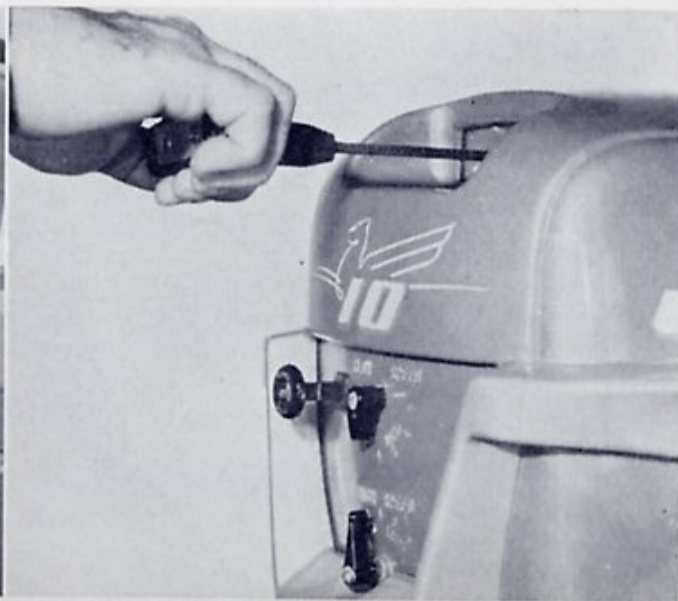

Figure 12
5. Pull slowly on starter handle (Fig. 12) until starter engages motor, then pull rapidly to start motor. Allow starter cord to rewind before releasing grip to prevent injury to starter cord.